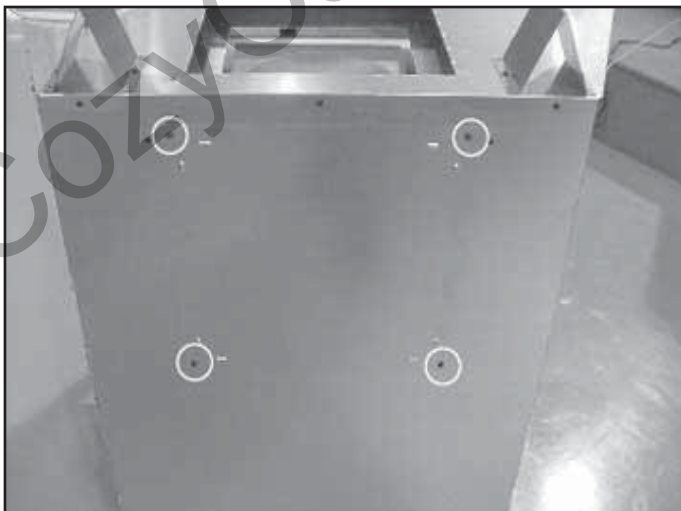
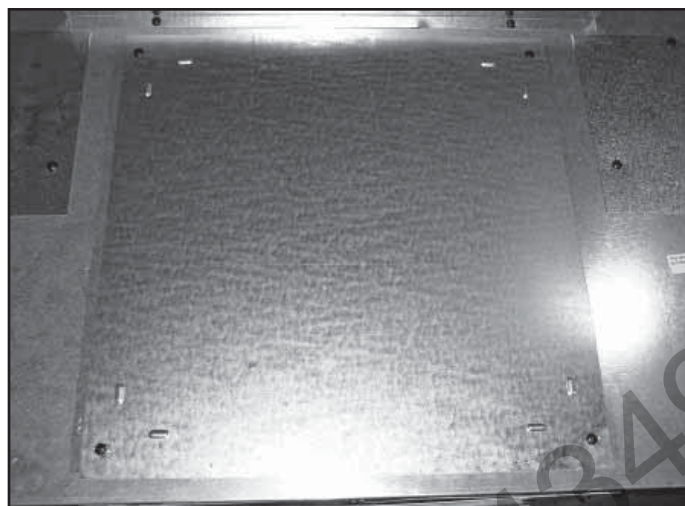

Figure 9.7 Outer Shell Cover
Figure 9.18 Screw Cover into Place
- Remove four screws holding outer shell cover. See Figure 9.7. Remove outer shell cover and set aside.
- Locate outer shell cover removed in the sixth step (Figure 9.7). Place the cover on top of appliance. See Figure 9.17. Replace four screws to hold plate in place. See Figure 9.18.